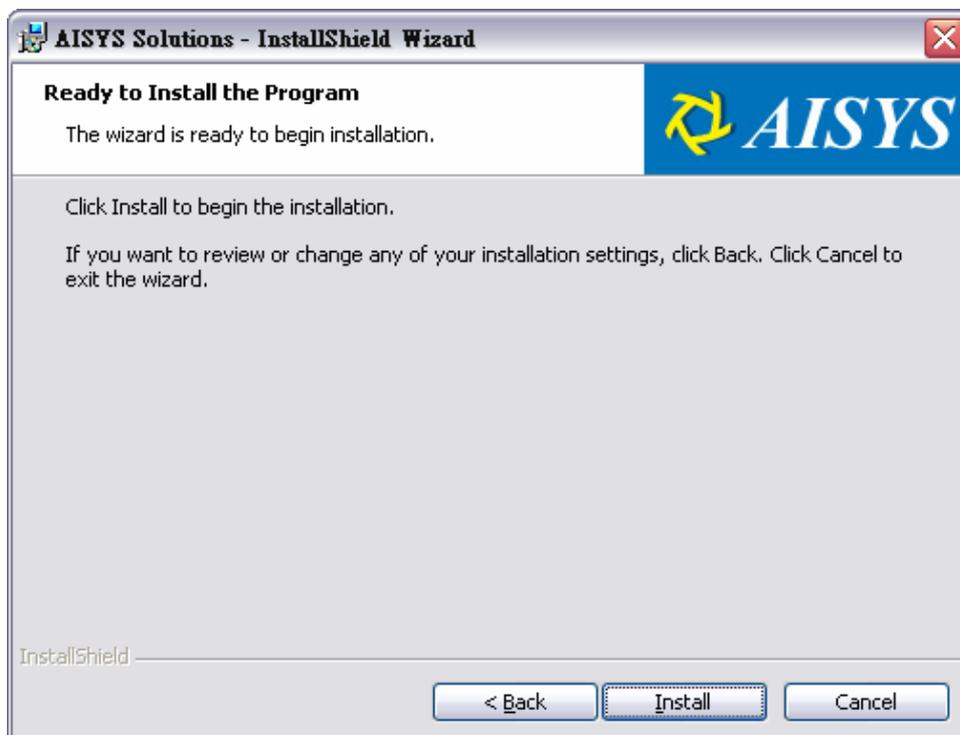

Figure 5.
5. Press the button “Install” to start the installation as shown in Figure 5.